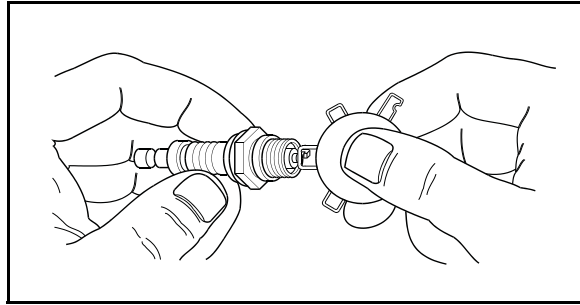

Figure 4-5. Adjust Spark Plug Gap
7. See Figure 4-5. Check spark plug gap using a wire feeler gauge. Adjust gap by carefully bending ground electrode to the dimensions in Section 2.5.2 - ENGINE.